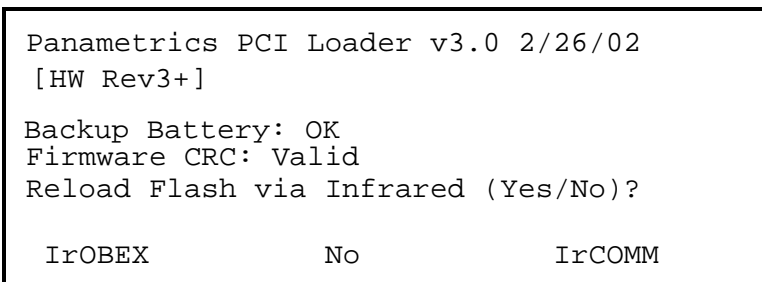

Figure 131: Flash Reloading Window
- Press [F3] (OK) to confirm that you wish to erase the program.
4. The meter asks for confirmation. Repeat the options shown in Step 1 above. After the PT878 reboots, the screen appears similar to Figure 131 below.